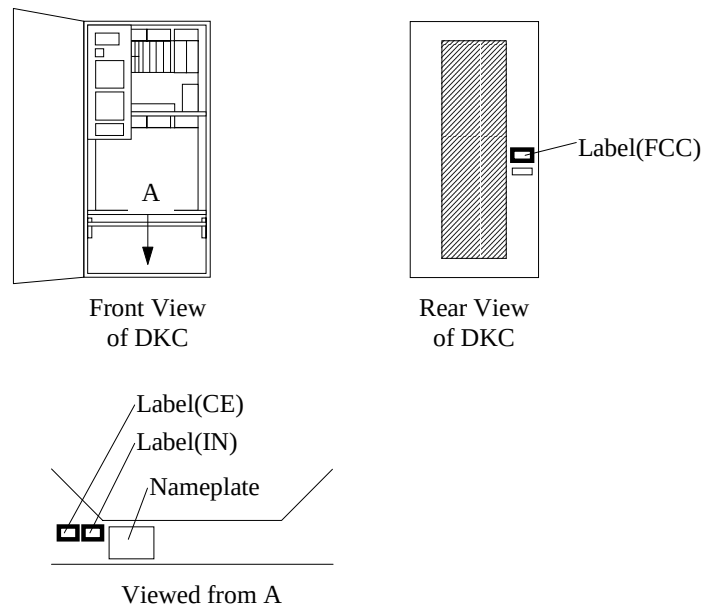

Fig. 3.23.3-17 Removal of Labels
- d. Attach the cable duct cover and fasten the two screws. Refer to Fig. 3.23.3-1.